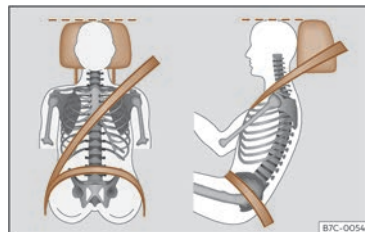

Fig. 18 Correct belt web and headrest positions
as possible¹⁾ >>> page 125. Keep the back of your neck as close as possible to the headrest >>> Fig. 18.
- Adjust the seat lengthwise so that you can fully step on the pedals with your knees slightly bent and there is a distance between the knee area and the instrument panel of at least 10 cm (4 inches) >>> Fig. 18.